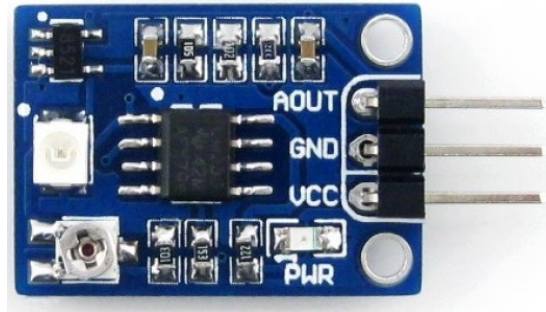

Figure 6: UV sensor [4]
The UV Sensor is used for detecting the intensity of incident ultraviolet(UV) radiation. This form of electromagnetic radiation has shorter wavelengths than visible radiation. This sensor is depicted in Figure 6. To read from this sensor, one can use Listing 2. You can read more about this sensor at [https://www.waveshare.com/wiki/UV\\_Sensor](https://www.waveshare.com/wiki/UV_Sensor).